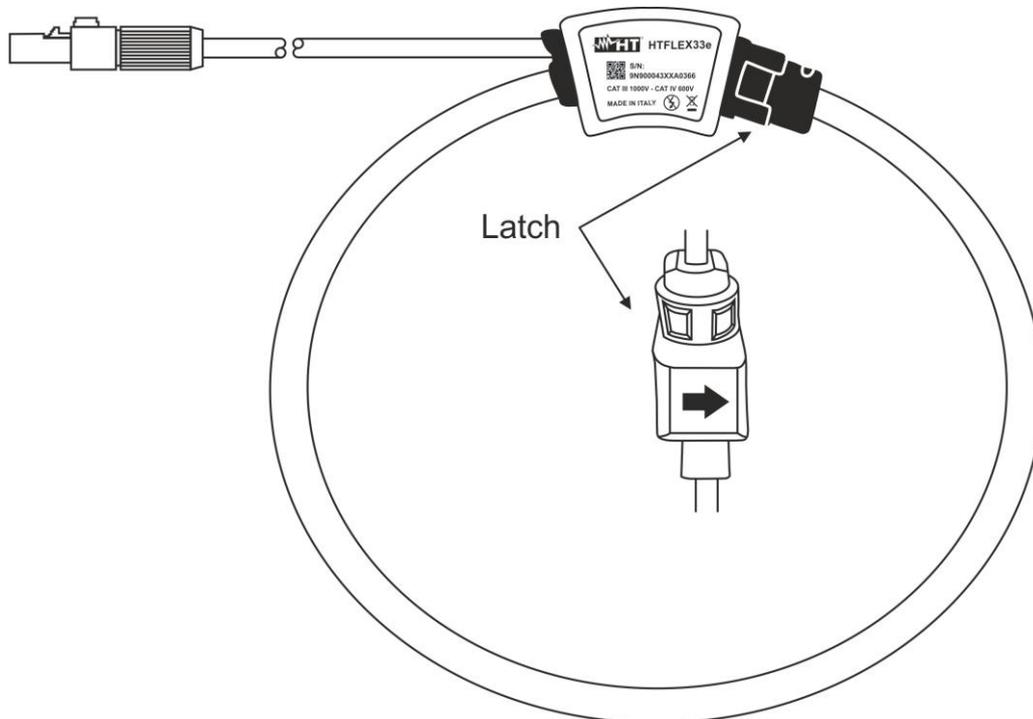

Fig. 2: HTFLEX33e transducer description
The lightweight and flexible HTFLEX33e is a current probe that may be wrapped around most conductors. The flexible head has a preset bend that allows the transducer to be more easily operated around the conductor (see Fig. 2). Its application versatility and insulation rating clearly distinguishes the HTFLEX33e transducer from other current measuring methods. It is made of non-ferrous materials, minimizing any circuit loading due to magnetic influence.
The current probe was designed to allow the operator to connect this device around a conductor without disconnecting it. Even though the current probe output is AC, there are instances where the user wishes to orient the transducer to get proper polarity at the output terminals (e.g. active power measurements). This is done by installing the transducer around the conductor with the molded-in arrow on the latch (see Fig. 2) pointing to the direction of conventional current flow. Conventional current flow is defined as current flowing from the positive to the negative potential. When a three phase plant is under test, the correspondence must be respected between volt probe of measuring instrument connected and clamp measuring the same phase.
1. Wrap the coil around the conductor, joining the two ends of the head by respecting the arrow on the rear part of the closing device (see Fig. 2) which indicates the direction of the current that by convention is from the generator to the load